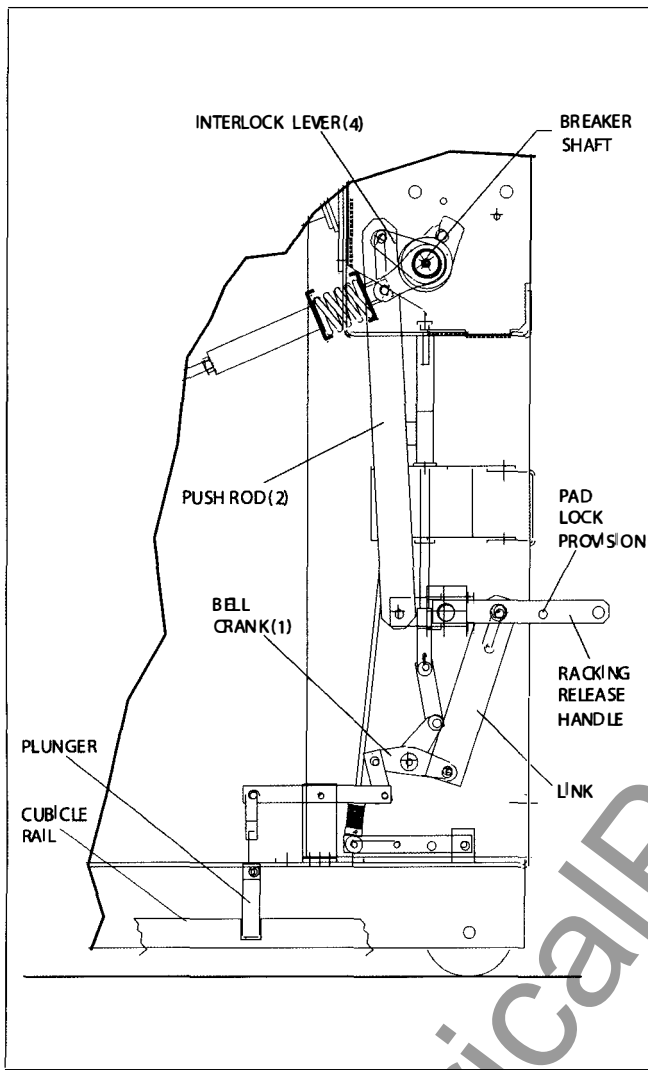

Figure 1.
Reference: **Figure 1**
- The circuit breaker is **closed** whenever the primary circuit is completed through the vacuum interrupter contacts. This closed condition is caused by rotation of the circuit breaker shaft, to the position shown in **Figure 1**.
- The circuit breaker is released (free to rack) when the plunger shown in **Figure 1** is elevated sufficiently to clear the slot in the cubicle rail.
- The circuit breaker is closed whenever the primary circuit is completed through the vacuum interrupter contacts. This closed condition is caused by rotation of the circuit breaker shaft, to the position shown in **Figure 1**.